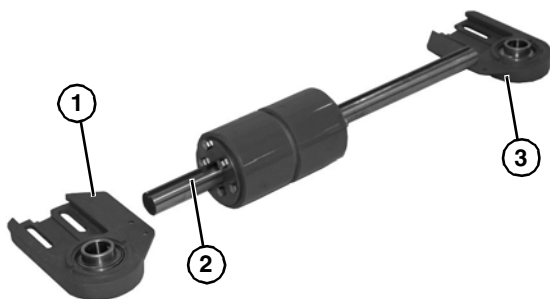

Figure 41
- Slide the head plate with bearing (Figure 41, item 1) off the shaft (Figure 41, item 2).
- Repeat for opposite side head plate (Figure 41, item 3).